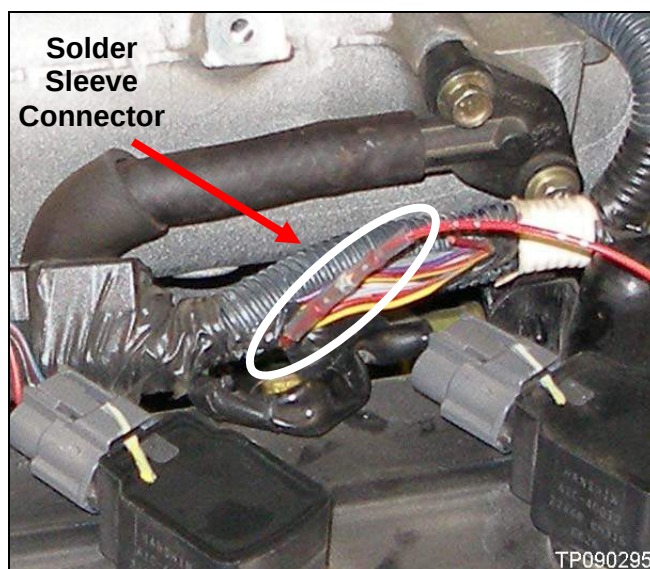

Figure 6
- e. Connect the kit supplied EGI harness service harness (jumper harness) to the wire on the left side of the cut with the solder sleeve connector, also supplied in the kit (see example in Figure 6).
**NOTE:** There are two (2) kit supplied solder sleeve connectors. Only one is needed.